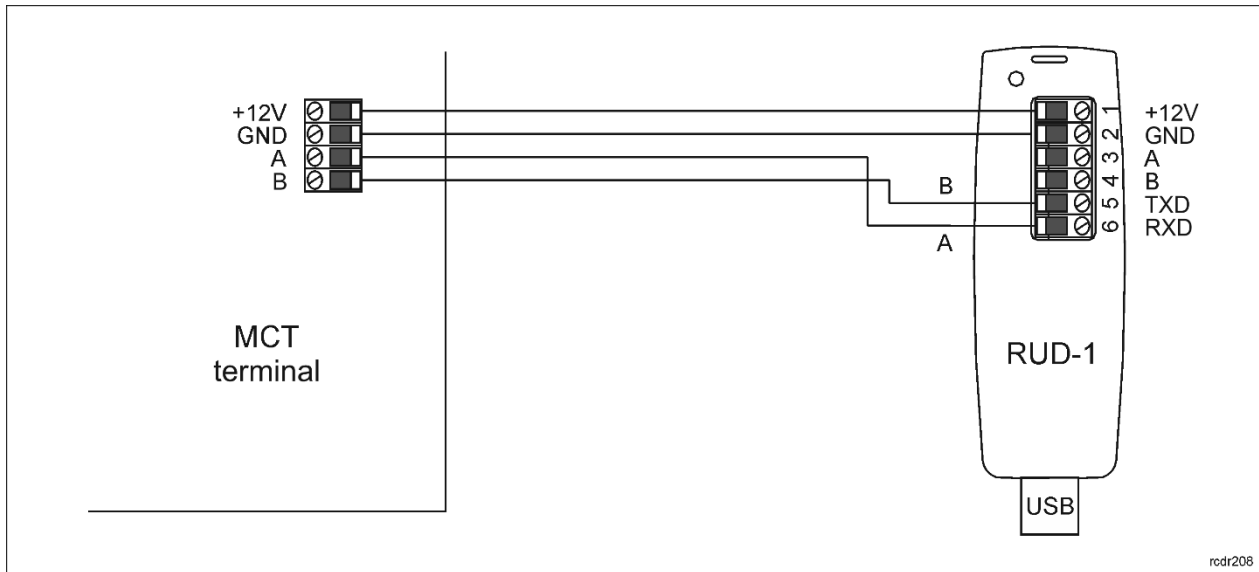

Fig. 7 Connection to RUD-1 interface (firmware update)
The update requires connection of reader to computer with RUD-1 interface (fig. 7) and starting RogerVDM software. The latest firmware file is available at [www.roger.pl](http://www.roger.pl).
1. Connect the reader to RUD-1 interface (fig. 7) and connect the RUD-1 to computer's USB port.